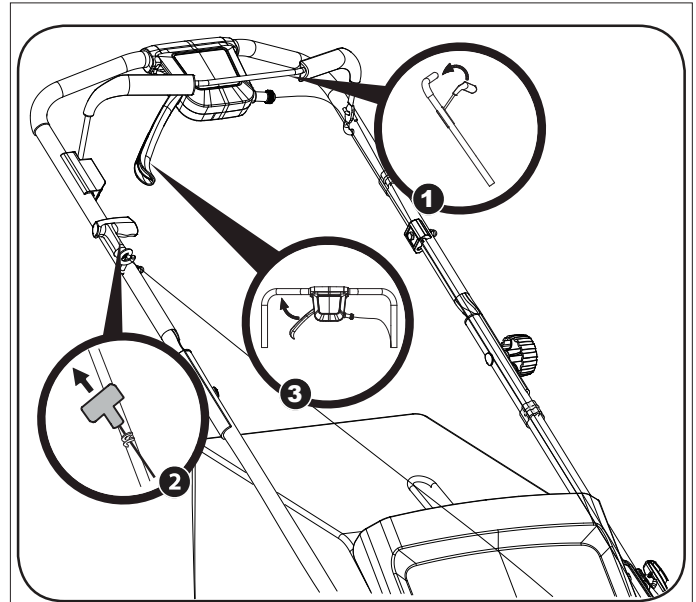

Figure 9
1. Standing behind the mower, pull the blade control handle back against the upper handle (Figure 9).
2. While holding the blade control against the upper handle, grasp the recoil starter handle and pull rope out with a rapid, continuous, full arm stroke. Keeping a firm grip on the starter handle, let the rope rewind slowly. Repeat until engine starts. Let the rope rewind each time slowly (Figure 9).
3. Pull the drive control to enable the self-propelled function (Figure 9).